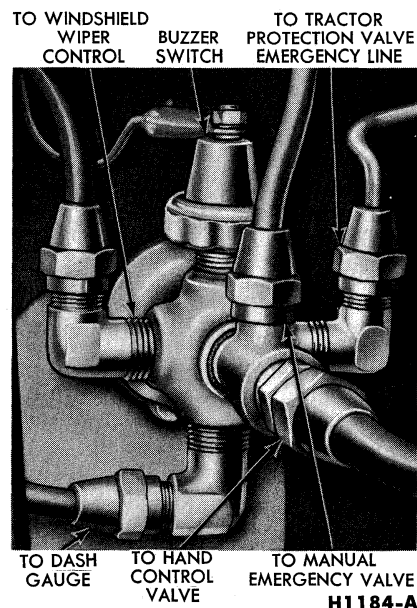

FIG. 13—Pressure Indicator Valve
dash panel (Fig. 13), and taps into a reservoir pressure line on the engine side of the panel.
3. Disconnect the air line to the dash gauge and the line to the windshield wiper control. On some full air systems, also disconnect the lines to the tractor protection valve, to the manual emergency valve, and to the hand control valve (Fig. 13).
2. Connect the wire to the buzzer switch, and connect the dash gauge and windshield wiper control lines. On some full air systems, connect the other lines as shown in Fig. 13.
In a typical installation (Fig. 4), the double check valve is connected to a reservoir pressure manifold mounted to the engine side of the dash panel. The pressure indicator valve also ties into this manifold from the passenger side (Part 2-6, Fig. 13).